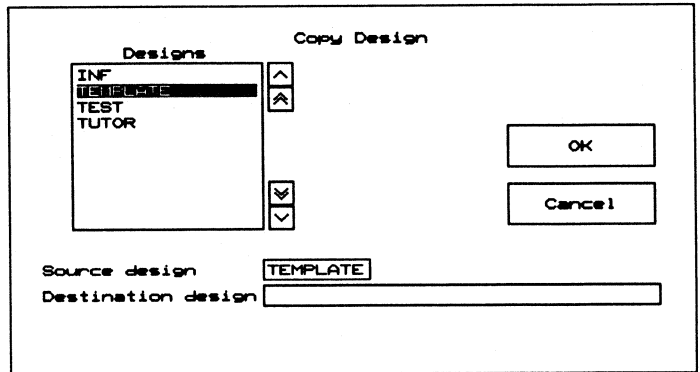

Figure 2-9. Copy Design window.
1. Select **Copy Design**. The window shown in figure 2-9 displays.